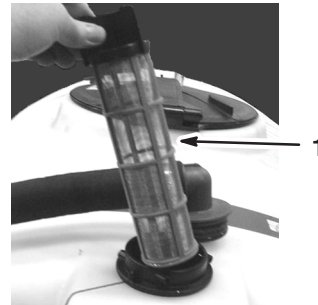

Figure 56
4. Pull the suction strainer out of the hole (Fig. 56).